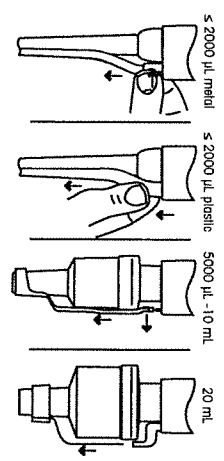

Figure 8: Removing Tip Ejector Arm
1. Remove tip ejector arm (See Tip ejector arm removal figure 8).